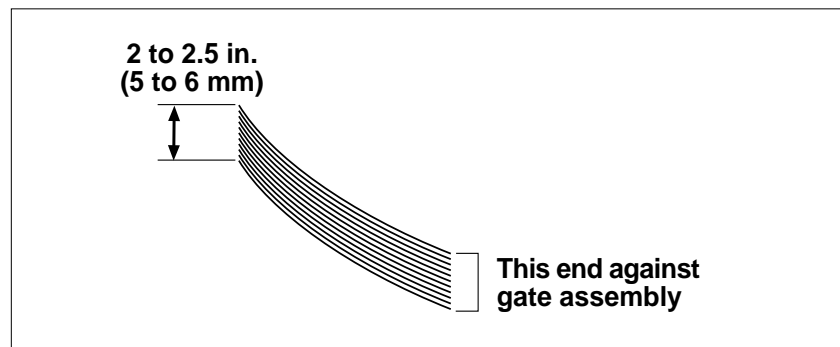

Figure 2-8. Preshingling a Small Stack of Material By Hand
1. Grasp a handful of material, approximately 2 to 2.5 in. (5 to 6 cm) thick, and preshingle the edges with your thumb (Figure 2-8).